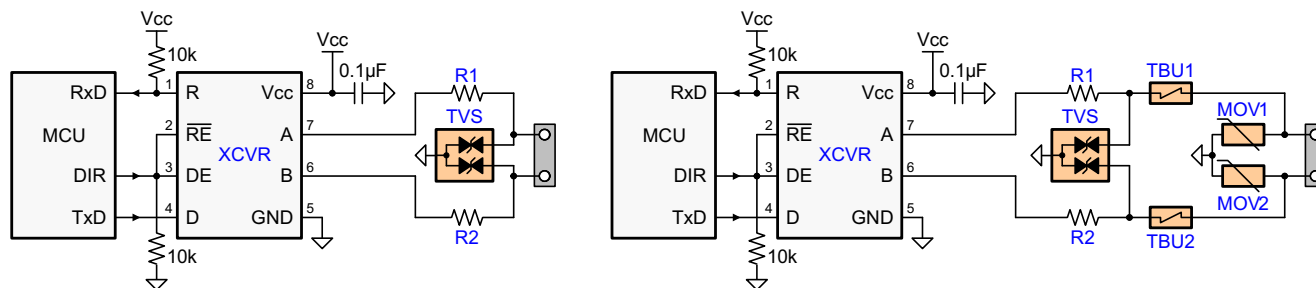

Figure 20. Transient Protections Against ESD, EFT, and Surge Transients
The left circuit shown in Figure 20 provides surge protection of ≥ 500 -V transients, while the right protection circuits can withstand surge transients of 5 kV.
While the transient protection is similar to the one in Figure 20 (left circuit), an additional high-voltage capacitor diverts transient energy from the floating RS-485 common further towards Protective Earth (PE) ground. This diversion is necessary as noise transients on the bus are usually referred to Earth potential.